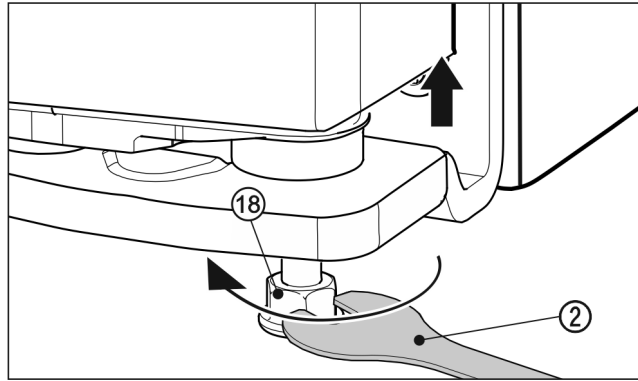

Fig. 25
- ▶ To lift the door, unscrew the adjusting foot Fig. 25 (18) clockwise using the supplied open-ended spanner Fig. 25 (2) until the foot makes contact with the floor. Then continue turning until the door is adjusted to the right height. When delivered, the bearing pin is completely screwed in.